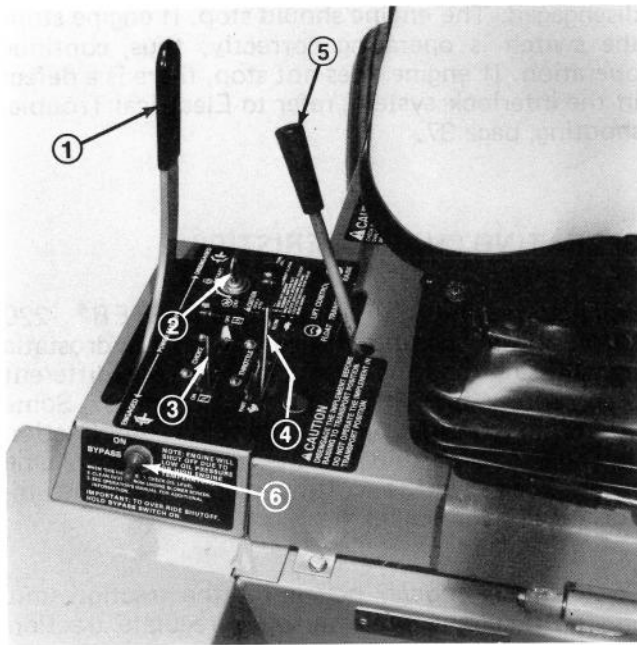

Figure 14
**PTO Lever** (Fig. 14) — The PTO lever has two positions: ENGAGE and DISENGAGE. Push PTO lever fully forward to ENGAGE position to start the cutting unit blades. Pull lever rearward to DISENGAGE position to stop the blades. The only time PTO lever should be in the ENGAGE position is when cutting unit is on the turf and grass is actually being mowed.
**Ignition Switch** (Fig. 14) — The ignition switch, which is used to start and stop the engine, has three positions: OFF, RUN and START. Rotate key clockwise — START position — to engage starter motor. Release key when engine starts. The key will move automatically to the ON position. To shut engine off, rotate key counterclockwise to the OFF position.
**Low Oil Pressure or High Cylinder Head Temperature By-Pass Switch** (Fig. 14) — Overrides engine Low Oil Pressure or High Cylinder Head Temperature shut off switches and allows engine to be operated when switch is held in on position. Avoid prolonged operation of engine using by-pass switch as engine damage may occur.
**Choke** (Fig. 14) — To start a cold engine, close carburetor choke by moving choke control forward to the ON position. After engine starts, regulate choke to keep engine running smoothly. As soon as possible, open the choke by pulling it rearward to the OFF position. A warm engine requires little or no choking.
**Throttle** (Fig. 14) — Throttle is used to operate engine at various speeds. Moving throttle forward
**Hydraulic Lift Lever** (Fig. 14) — The hydraulic lift lever has three positions: FLOAT, TRANSPORT and RAISE. To lower cutting unit to the ground, move lift lever forward into notch in seat cover — FLOAT. The FLOAT position is used for mowing and when machine is not in operation. To raise cutting unit, pull lift lever rearward to the RAISE position. After cutting unit is raised, allow lift lever to move to the TRANSPORT position. Cutting unit must be raised when driving from one work area to another.